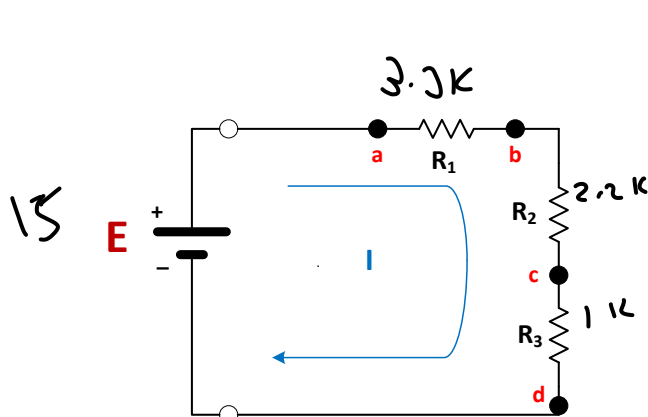
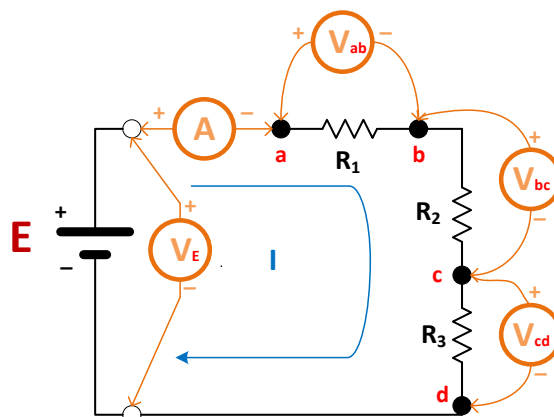

Figure 2.1a: KVL Series Circuit
Figure 2.1b: KVL Series Circuit showing Voltmeter & Ammeter connections
- (i) For the circuit of **Figure 2.1a**, assume the source-voltage, $E = 15V$, $R_1 = 3.3\text{ k}\Omega$, $R_2 = 2.2\text{ k}\Omega$ and $R_3 = 1.0\text{ k}\Omega$. Determine the expected current, I and the voltages across resistors $R_1 (=V_{ab})$, $R_2 (=V_{bc})$ and $R_3 (=V_{cd})$ for the respective values of resistors shown. Record your theoretical results in **Table 2.1**. Determine the sum $\Sigma V = (V_{ab} + V_{bc} + V_{cd})$ to verify the KVL law.
- (ii) On MultiSIM, construct and simulate the circuit of **Figure 2.1a** using a DC source-voltage, $E = 15V$, $R_1 = 3.3\text{ k}\Omega$, $R_2 = 2.2\text{ k}\Omega$ and $R_3 = 1.0\text{ k}\Omega$. The measurement setup for the simulator is depicted in **Figure 2.1b**. Record the measured current, I and the voltages across resistors $R_1 (=V_{ab})$, $R_2 (=V_{bc})$ and $R_3 (=V_{cd})$ for the respective values of resistors shown. Record your simulation results in **Table 2.1**. Determine the sum $\Sigma V = (V_{ab} + V_{bc} + V_{cd})$ to verify the KVL law.
(iv) **Design Problem:** Referring to the circuit of **Figure 2.1a**, a designer wishes to create three *equal* potential differences (i.e. $V_{ab} = V_{bc} = V_{cd}$) of **5V** each from a source-voltage, **E = 15V**. The **maximum** source-current, **I** available from the **E** battery-source is **5mA**, and so the designer must ensure the current value stays within this requirement, and **not exceed**. Using KVL concept, analyse and determine a set of values for **I**, **R₁**, **R₂** and **R₃** the designer can use to meet the above design specifications. *Use standard resistor values available in your lab kit in your design.* Record the results of your design analysis in **Table 2.2**.